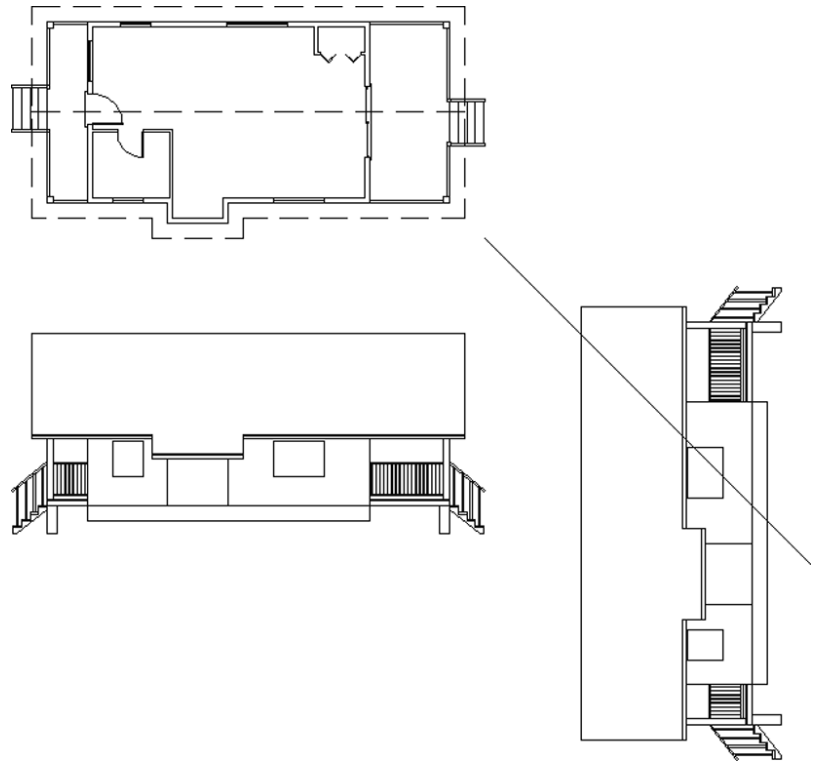

FIGURE 10.52: The copied elevation moved and rotated into place with the view adjusted
28. Zoom out, and use **Zoom Window** to adjust the view (see Figure 10.52).